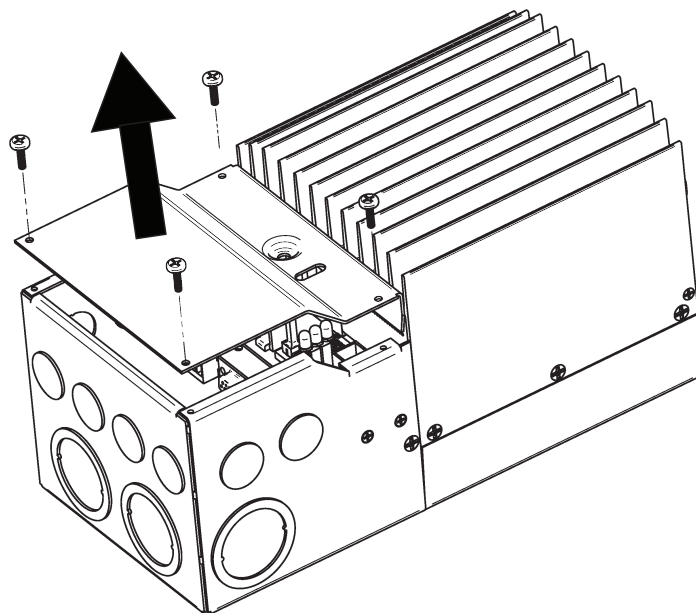

Figure 3-1. Remove the wiring box cover.
Use a #2 Phillips screw driver to remove the four (4) screws that secure the wiring box cover as shown in figure 3-1 below.